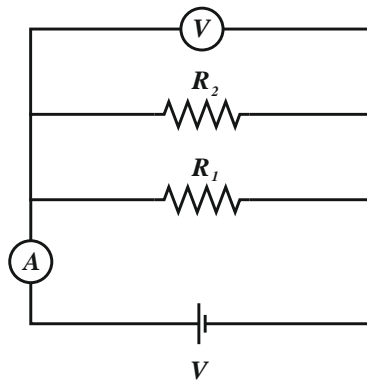

Figure 4.7 Experimental setup for resistors in parallel
7. Set the circuit up for resistors in parallel given in Fig.4.7.